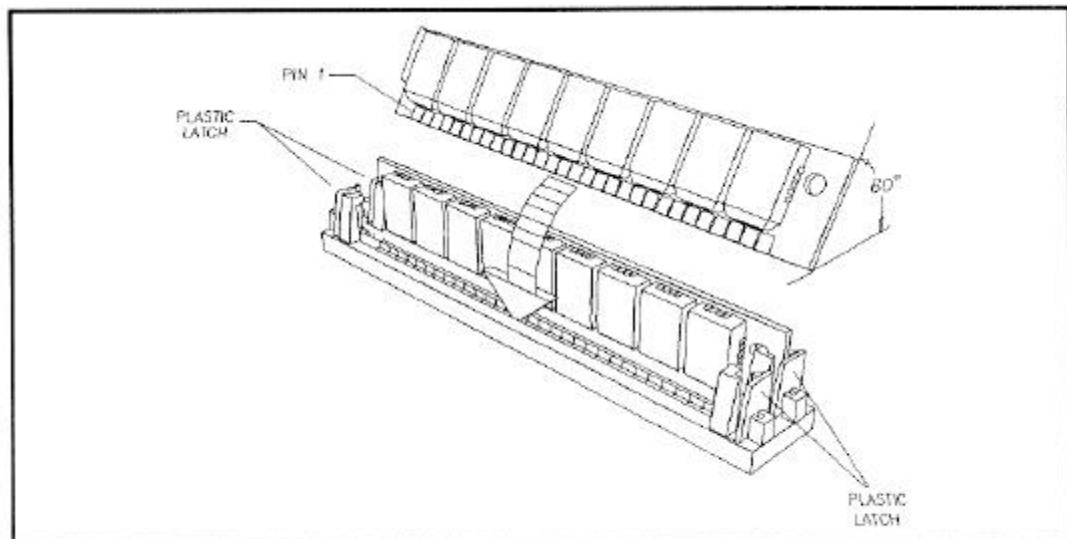

Figure 4-3: Installing a SIMM
2. Insert a SIMM into the proper socket (per Table 4-1) at a 60-degree angle as shown in Figure 4-3.